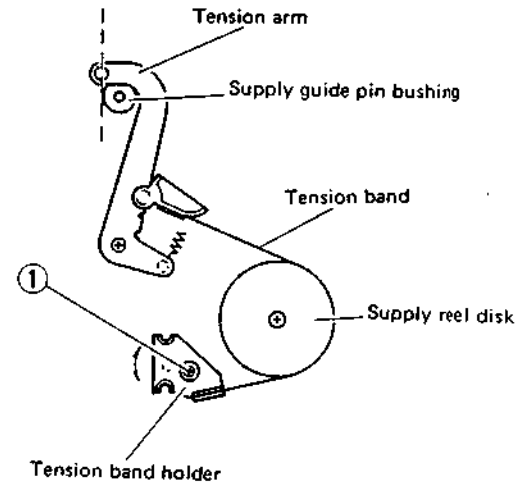

Fig. 2-4-3 Tension pole position
2. Confirm that the center of the tension pole lies upon the left side of the supply guide pin bushing as shown in Fig. 2-4-3.
3. If necessary, loosen screw ① and adjust the tension band holder to obtain the correct tension pole position.